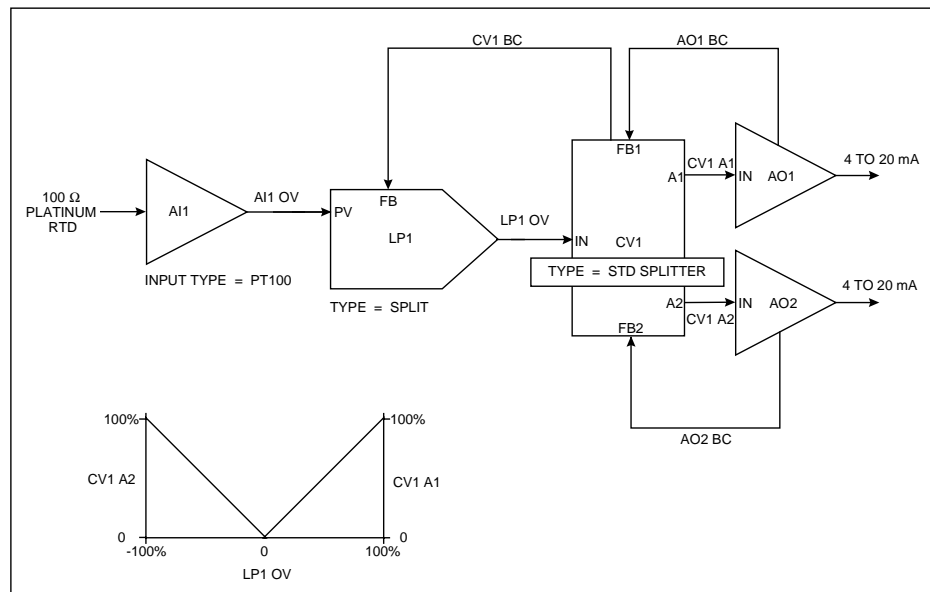

Figure 3-24 Function Block Diagram Of Figure 3-23
In Figure 3-24, the analog input function block AI1 is depicted processing the resistance values produced by the RTD. The resulting water temperature measurements (AI1 OV) are then fed to the process variable input (PV) of the LP1 control loop block. Note how LP1 has been defined as a split output control loop using the notation “TYPE = SPLIT.” Unique to this control loop is the defined range of its output value, LP1 OV. Where the standard control loops mentioned thus far have had outputs ranging exclusively between 0 and 100%, the % values of the split output control loop vary between -100 and 100. 0% is considered the midpoint for this control loop’s output range. When brought on-line, a 0 to 100% output value will be generated by LP1 when hot water is needed to maintain the temperature at set point. When the addition of cold water is necessary, the loop’s output will assume a value between 0 and -100%. Note that to externalize the control signals generated by LP1, two analog output blocks, AO1 and AO2, will be used. AO1’s 4 to 20 mA signal will be tied to the hot water valve actuator, while the actuator that adjusts the position of the cold water valve will receive its mA control signal from AO2. To provide AO1 and AO2 with usable input driving signals, LP1’s output will be applied to a function called a “standard splitter (STD SPLITTER).” Made from one of the instrument’s calculated value function blocks (“CV’s”), the standard splitter will essentially be a mechanism that translates the % values of the split output control loop into two distinct 0 to 100% signals. They will be applied to the inputs of AO1 and AO2 and, as such, will drive and linearly correspond with AO1 and AO2’s 4 to 20 mA outputs.
The two outputs on CV1 that will drive AO1 and AO2 are respectively labeled “CV1 A1” and “CV1 A2.” CV1’s basic operation is described by a plot of these outputs versus LP1 OV. Shown in the lower left of Figure 3-24, the plot demonstrates that CV1 will produce a 0 to 100% value at its CV1 A1 output when LP1 calls for an output level between 0 and 100 %. CV1 A2 will remain at 0%. When applied to AO1, the CV1 A1 value will activate the 4 to 20 mA signal needed at the hot water valve actuator to make the water temperature in the vessel rise. Similarly, when LP1 calls for an output level between 0 and -100%, CV1 will produce a corresponding 0 to 100 % value at CV1 A2. This time, CV1 A1 will remain at 0% and the CV1 A2 value generated will induce the introduction of cold water into the vessel to cool its contents down.